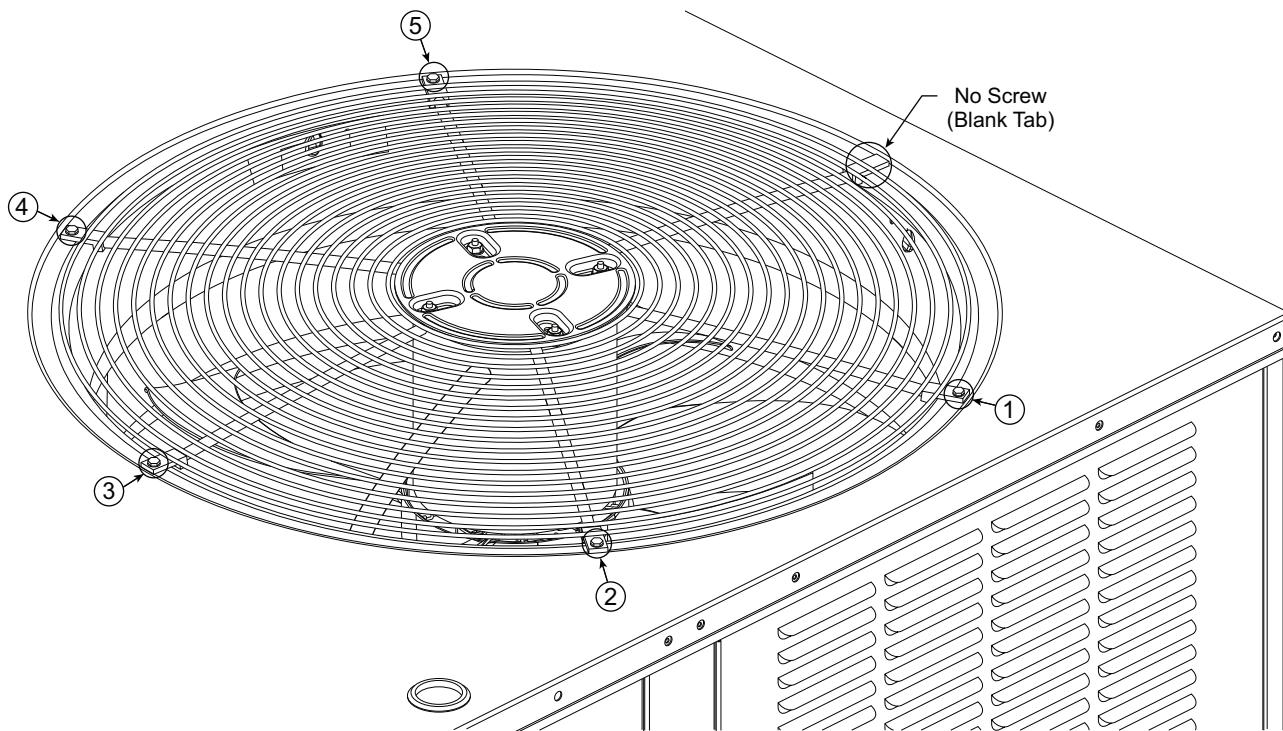

Fig. 26 — Condenser-Fan Assembly — Screw Pattern Sequence
6. Replace condenser-fan assembly. When replacing the condenser-fan assembly follow the screw pattern sequence shown in Fig. 26. The screws must be replaced in the sequence shown in the figure.